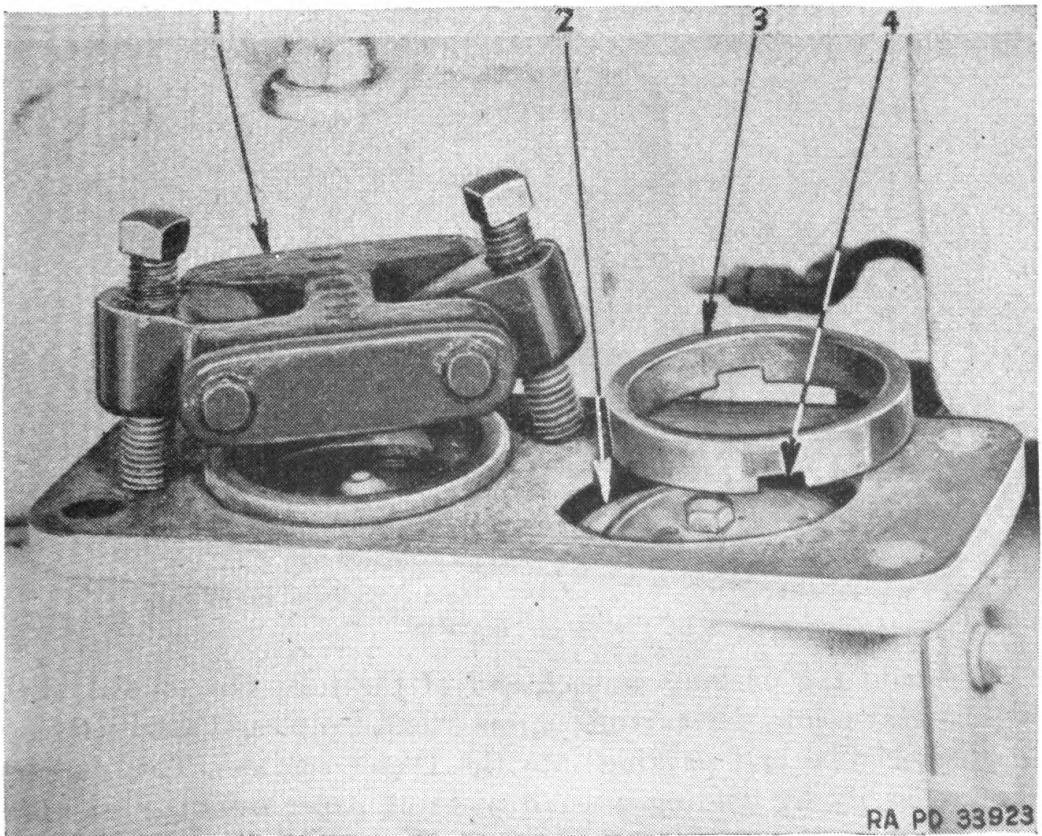

FIGURE 14.—Use of regulator retainer puller.
b. The construction of the regulators is such that should the bel- lows become punctured, the regulator will open fully. Figure 14 shows the use of a CAT3B7184 regulator retainer puller (1) to re- move the retainer (3). The hooks of the puller fit in the slots (4) of the retainer. Lift out regulator (2).